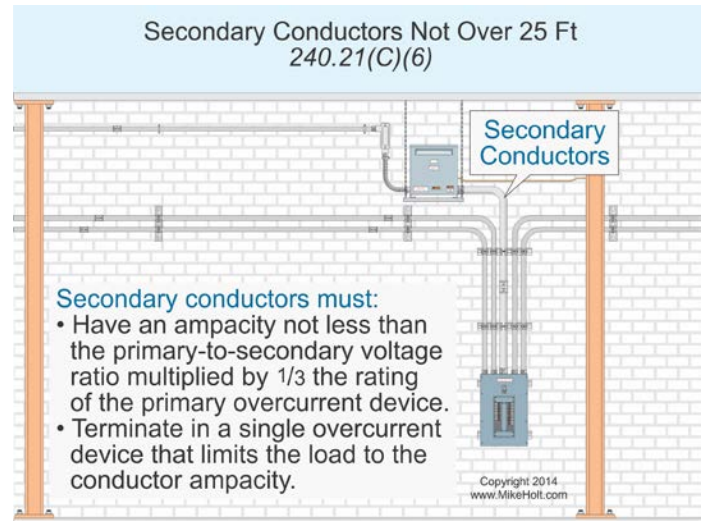

Figure 240-32
(6) 25-Foot Secondary Conductor. Secondary conductors can be run up to 25 ft without overcurrent protection if they comply with all of the following: Figure 240-32